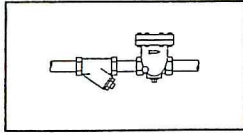

Fig. 4.2 – Type B Nicholson Industrial Traps have either vertical or horizontal outlets. Pipe plug is for draining if there is danger of freeze-up.
- 1.8 Install a Nicholson Strainer, or a dirt pocket, or both, close to trap inlet. See "Recommended Piping Layouts", Figs. 4.2, 4.3, and 4.4.